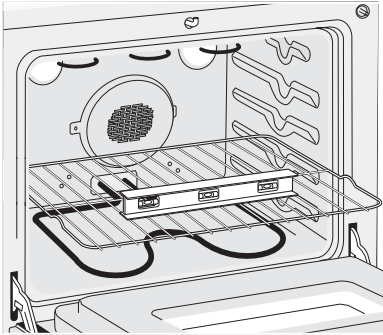

Figure 4
2. Place a level on the rack (see figure 4). Take 2 readings with the level placed diagonally in one direction and then the other. Level the range, if necessary, by adjusting the 4 leveling legs with a wrench (see Figure 8).